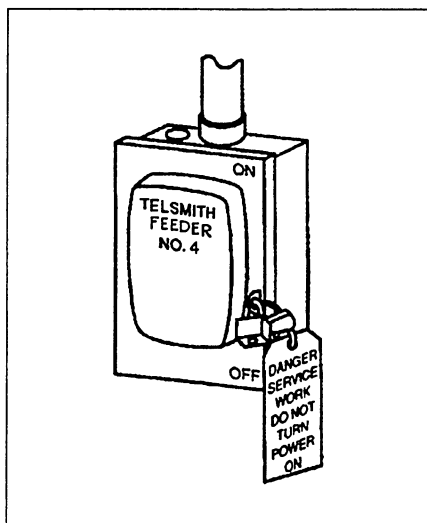

Figure 1-2. Tagged Controls
- Whenever troubleshooting or repairing the electrical system, work with the power locked out and tagged, if possible. See Figure 1-2.